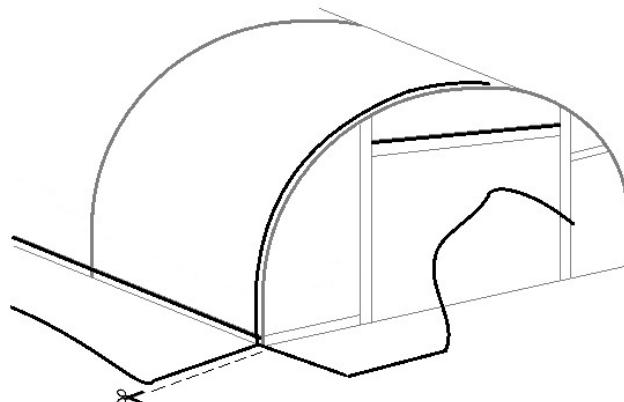

Fig123
- **STEP 3:** With just the four corners and the door frames left, it will now be necessary to cut the polythene at the corners, but ONLY below the base/side rails, to allow the cover to come smoothly around the ends (**Fig123**). It is important that the cover is cut in line with the end of the tunnel, **NOT** the length.